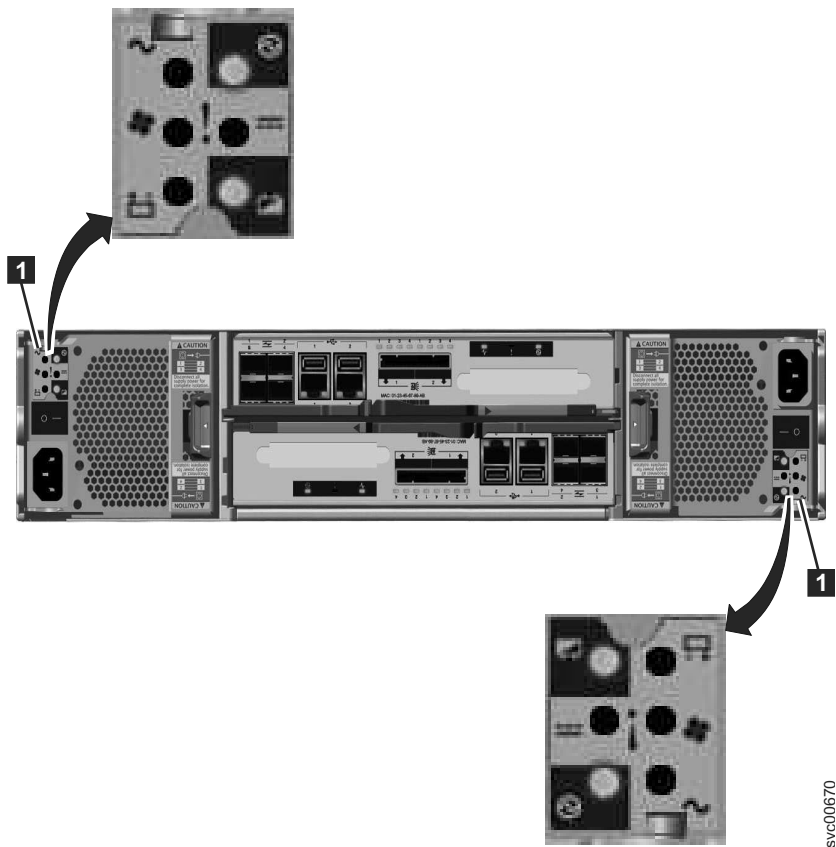

Figure 73. LEDs on the power supply units of the control enclosure
1. Use the state of the ac power failure, power supply OK, fan failure, and dc power failure LEDs on each power supply unit in the enclosure to determine if there is power to the system, or if there are power problems. Figure 73 on page 263 shows the LEDs on the power supply unit for the 2076-112 or 2076-124. The LEDs on the power supply units for the 2076-312 and 2076-324 are similar, but they are not shown here.